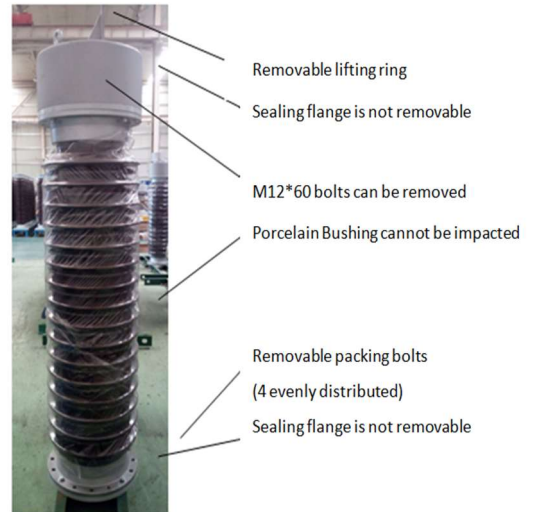

Fig. 4 Photo of the upper capacitor divider
- 3) Check whether the product appearance is intact without damage. **Then dismantle the M12\*60 hot-dip galvanized hex head bolt (shown in Fig.4) between the expander cover and the flange at the top of each capacitor divider, remove the expander cover and the protective baffle surrounding the expander, finally recovery the expander cover, which requiring the nameplate direction to be consistent with the direction before the removal.**
4) For transformers with multi-sections capacitor divider, only allow to remove the connecting bolts and packing bolts between the capacitor dividers (see Fig. 4), and the remaining fixing bolts should not be loose. **Specially: Do not loosen the sealing bolt of the capacitor divider itself, the lower capacitor divider and the electromagnetic unit connection bolt.**